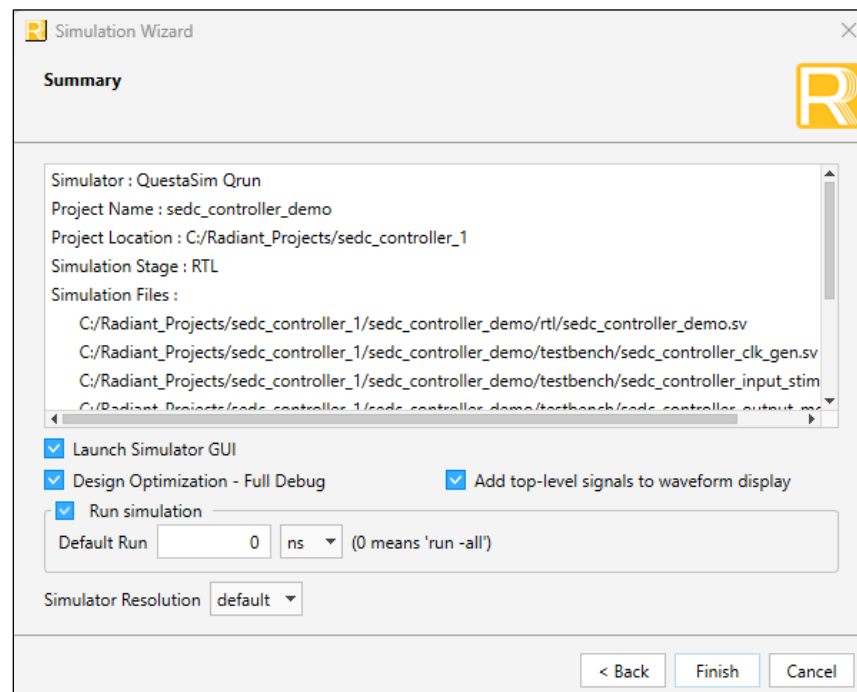

Figure 5.7. Summary
- Click **Next**. The **Summary** window opens as shown in Figure 5.7. Change the time of **Default Run** as shown to run the full simulation.